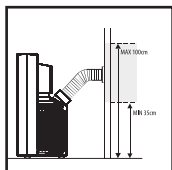

Fig. 7
4. Insert the other end of the exhaust hose to the flange already placed in the hole (Fig. 7).